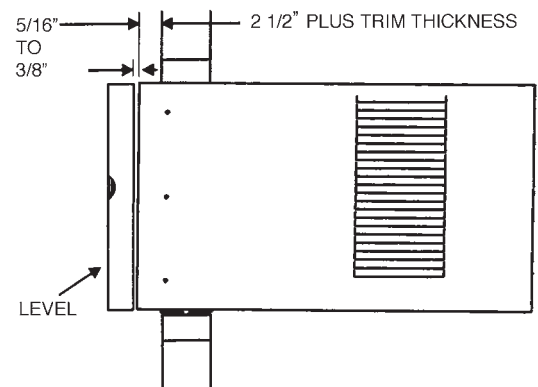

FIGURE 22 — CABINET LOCATION IN WALL
13. Slide the empty cabinet into the wall opening and into wooden frame. Approximately 2½ in. of the cabinet should be in the room. The rest of the cabinet should be positioned through and outside the wall. See Fig. 22. Maintain proper slope for condensate drain operation. Bottom rail should be resting firmly on bottom board of wooden frame.